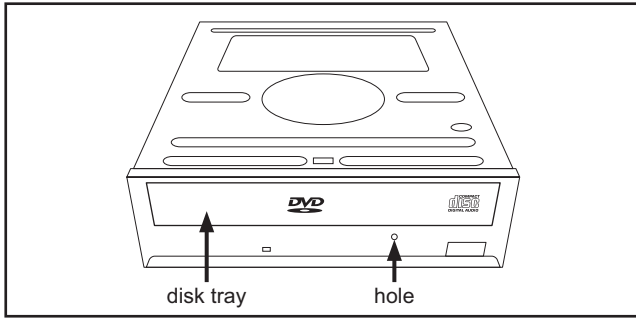

Fig.5-2a
- (1) Unplug the AC power cord from the AC outlet.
- (2) Remove the top cover and front panel assembly. (Refer to the disassembly procedure and perform the dis-assembly of the major parts before removing)
- (3) Pass a thin wire through a hole in the DVD unit.
- (4) The disc tray comes out slightly. Take out the disc tray manually. (See Fig.5-2a)